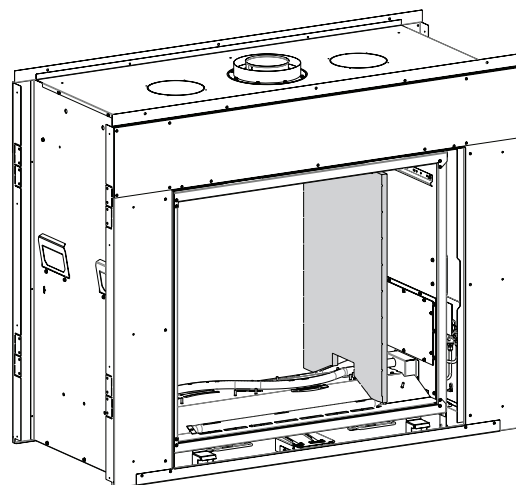

Figure 59
4. Remove right liner panel. **See Figure 59.**